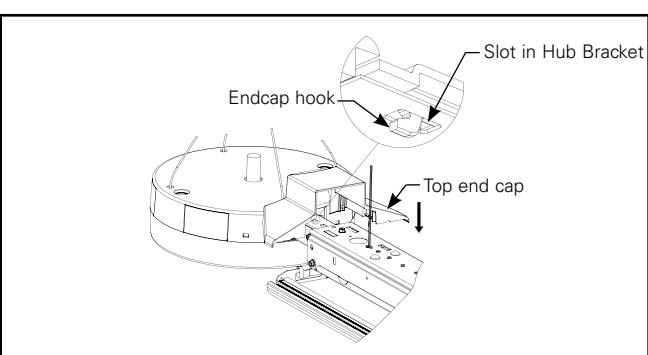

Figure 12.1.
A. Locate top end cap hook in the hub bracket slot between fixture assembly and hub assembly (Figure 12.1)